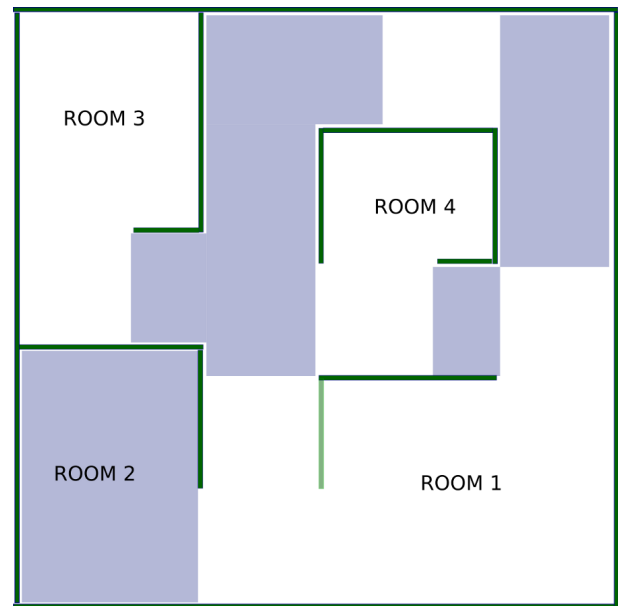

Figure 5.6: Allowed Rug Locations (FF Rug Locations.png)
- Rugs will be placed in some or all of the rooms and hallways. There will be no shag rugs, but robots must navigate across 1 cm thick rug edges. The shaded areas in Figure 5.6 mark the allowed rug locations: not all rugs will be present and the locations and colors will be different in each arena.